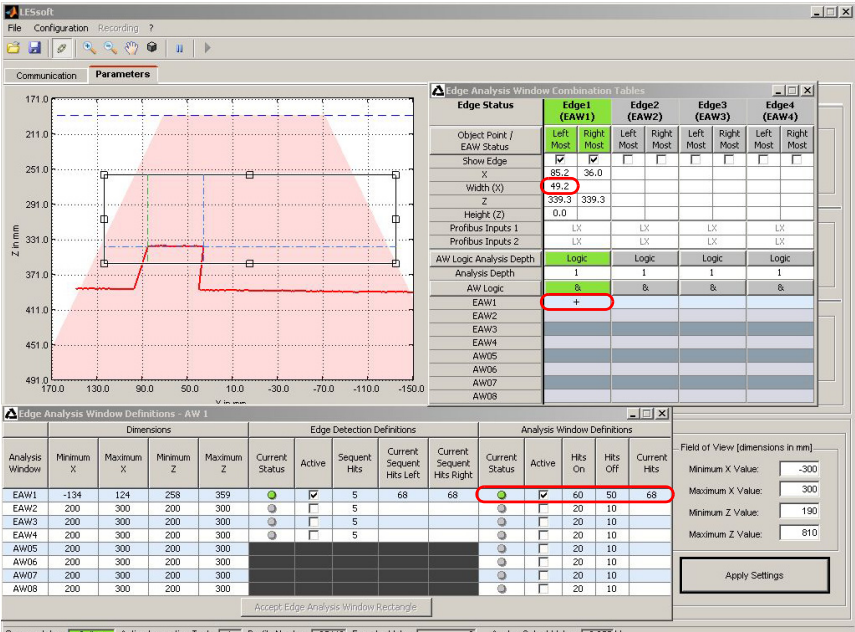

Figure 9.9: Application example 3.1: width monitoring of cubic objects with object detection
The threshold for object detection in EAW1 is 60 hits. In Figure 9.9 there is a wide object with Current Hits = 68 in the measurement range of the LES. The object is detected, the state of object detection is green (ok). In the Edge Analysis Window Combination Tables window, the additional object detection is activated by selecting + under EAW1. All results are green (ok). The ascertained width of the carton is 49.2mm (column Edge1 -> line Width (X)).